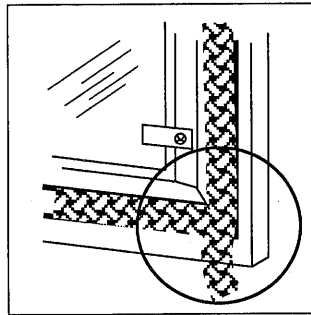

Fig. 55. Lay out the gasket in its channel to determine the right length.
3. Determine the correct length of the appropriate-sized gasket by laying it out in the channel. Allow an extra 1-2" (25-50 mm), and mark the spot to be cut. See Fig. 55.